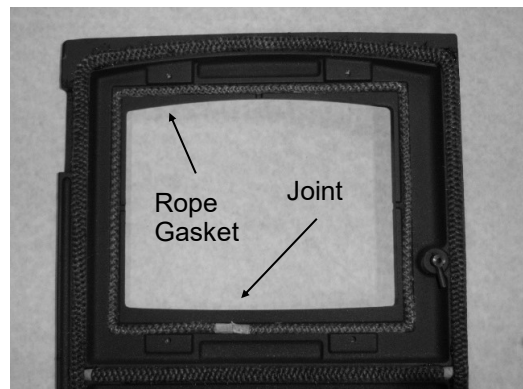

Fig. 9. Lining Up Gasket Rope
- Replace the glass rope gasket; start at the bottom of the window, centrally, push the adhesive side of the rope into the groove on the rear of the casting. Gradually work your way around until the end of the rope meets. See Fig. 9.